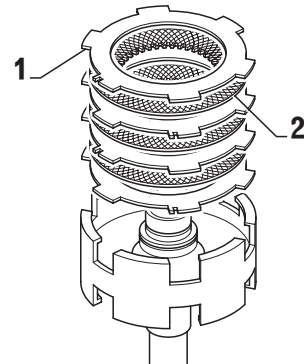

FIG. 1-1a
- For exact quantity of inner (item 2, Fig. 1-1a) and outer discs (item 1, Fig. 1-1a), please refer to the spare parts list at the end of this manual.